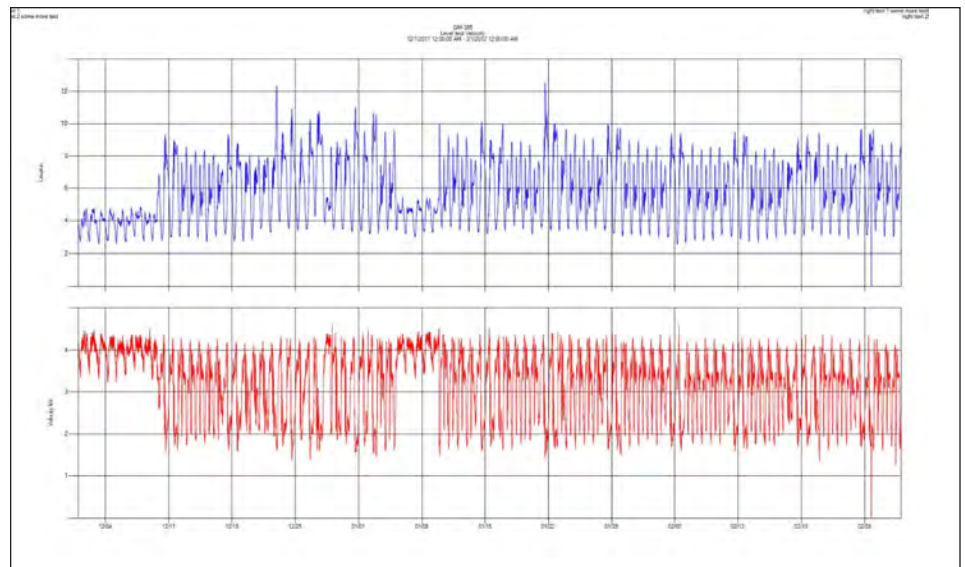

Figure 12: Diurnal dry weather flow pattern showing a possible problem of the level float
- Diurnal flows if testing during wet weather: Subtract I/I before using concentrations of RNA copies and verify equipment function (see Figure 12).